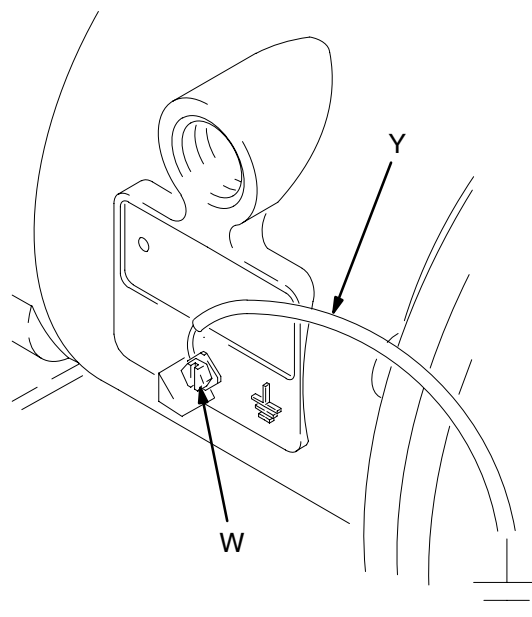

Fig. 1 02646E
- **Pump:** Connect a ground wire and clamp as shown in Fig. 1. Loosen the grounding screw (W). Insert one end of a 12 ga (1.5 mm²) minimum ground wire (Y) behind the grounding screw and tighten the screw securely. Connect the clamp end of the ground wire to a true earth ground. Order Part No. 222011 Ground Wire and Clamp.